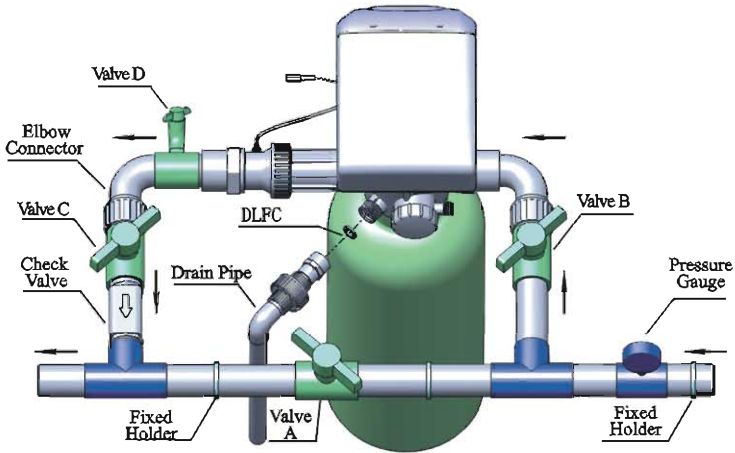

Figure1-3
③ Pipeline connection
- a. Install a pressure gauge in water inlet as figure1-3.